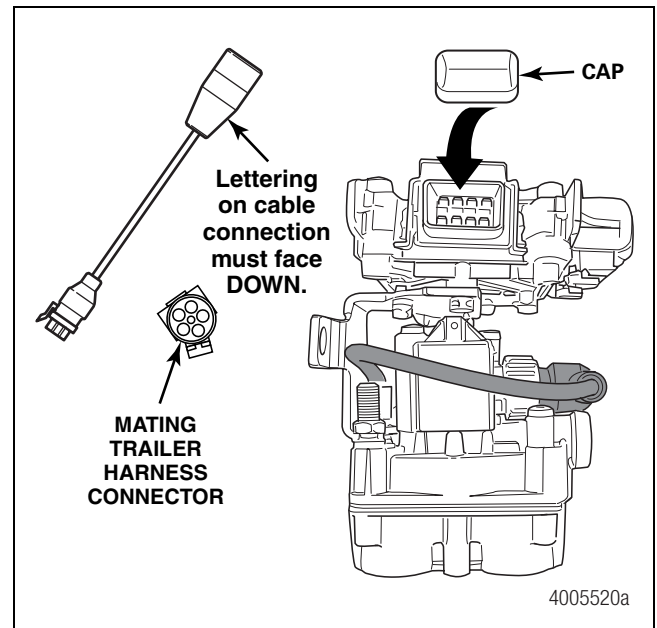

Figure 9
4. Push the hinged power connector retaining clip **UP** and remove the protective cap from the ECU/single modulator valve assembly. Figure 9.